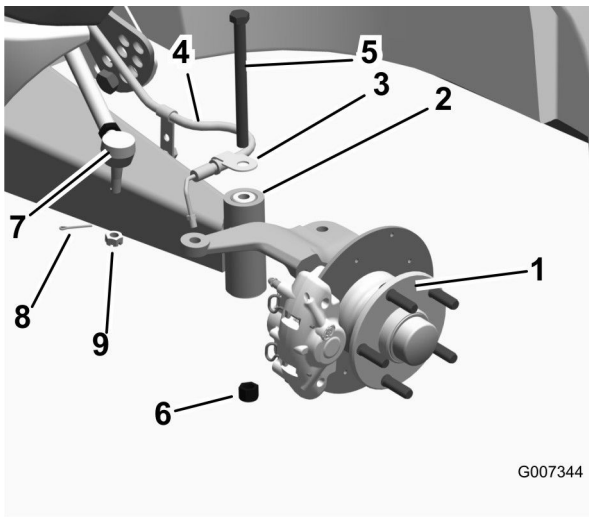

Figure 8
6. Install the right and left spindle and brake assembly (Figure 8) to the A-arm. Add the hose bracket and hydraulic line on top of the axle assembly and secure it all with the long bolt and nut removed previously. Torque the fasteners to 75-100 ft-lb (102-136 N-m).